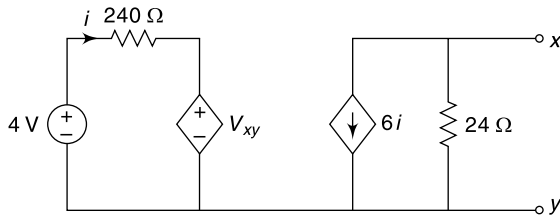

Fig. 4.153 Circuit of Ex. 4.122
4.122 Find the Norton's equivalent circuit for the transistor amplifier circuit shown in Fig. 4.153.